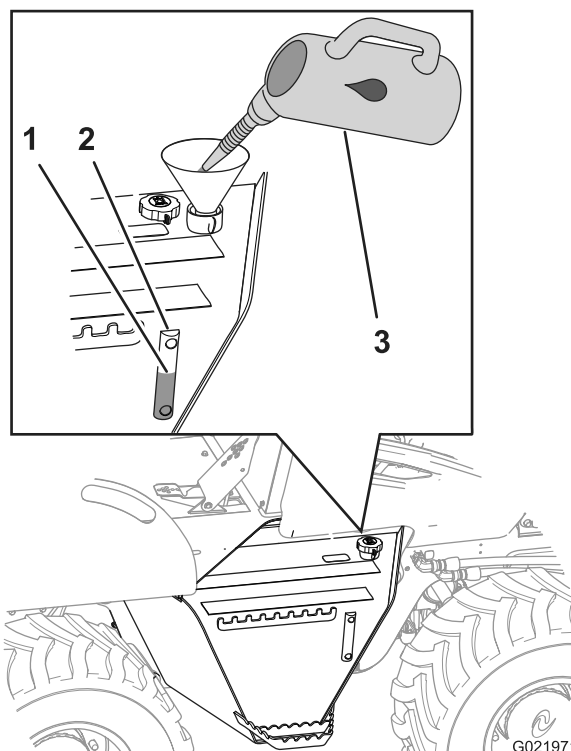

Figure 22
3. Check the hydraulic fluid level in the sight gauge located at the side of the hydraulic reservoir (Figure 22).
4. If the hydraulic fluid level is below the Add mark, remove the fill cap/breather (Figure 22), add the specified hydraulic fluid to raise the fluid level up to the Full mark, and install the fill cap/breather.